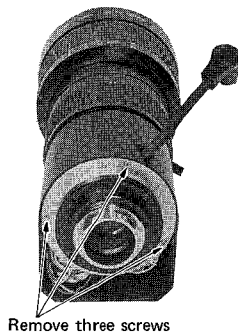

Fig. 2
- Remove three screws which hold the lens mounting assembly and remove the lens mounting assembly. (Fig. 2)